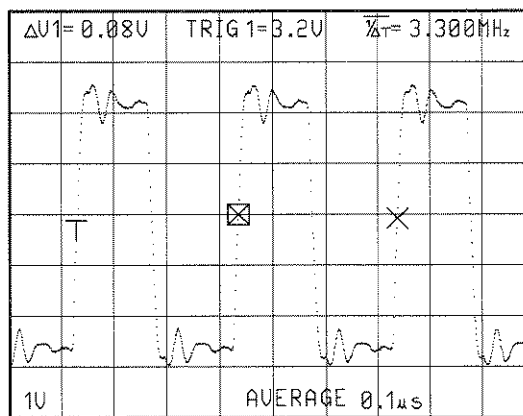

Figure 3-37: Cursor Frequency Measurement
- Step 4:** Push the **CURSORS** knob in to select the other cursor and position it at the *same* transition point on the *next* cycle of the signal (Figure 3-37).